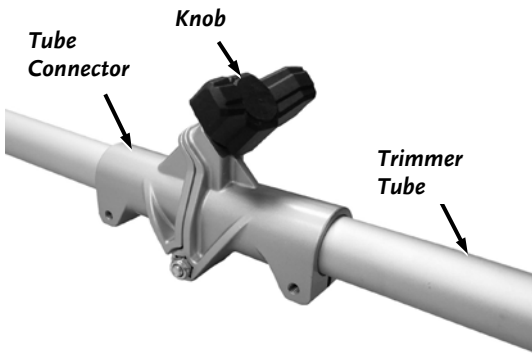

Figure 6
2. Unfold the Trimmer Tube so that it is fully extended and the Tube Connector halves are together (**Figure 6**). Be careful not to pinch the wire that is inside the Tube.